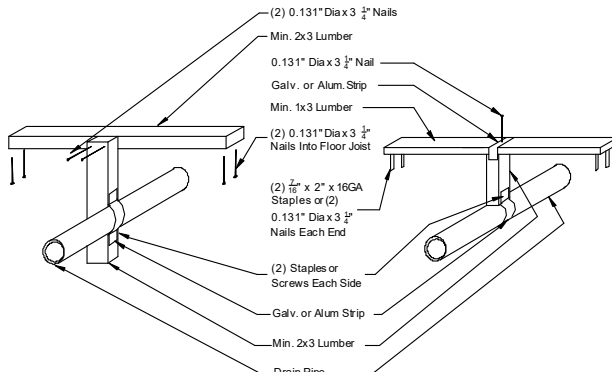

Figure 67. DWV pipe support options
5. **Install supports.** Install permanent drain line supports at a distance of four feet o.c. or less (see **Figure 64**, **Figure 65**, **Figure 66**, and **Figure 67**).